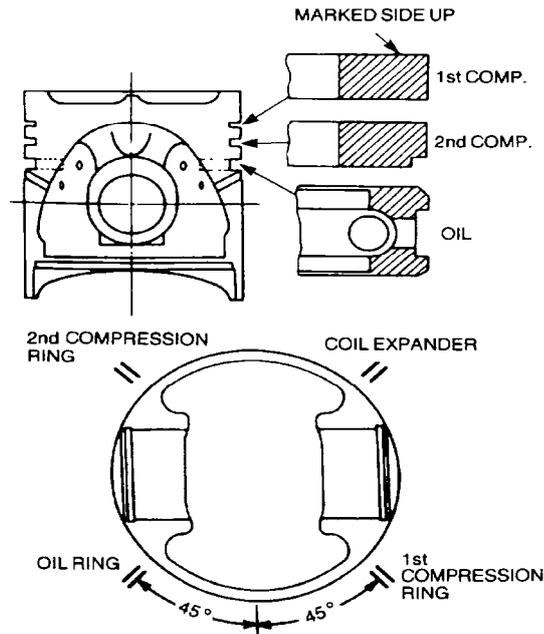

Figure 46 Piston Ring Installation
- x. When the piston rings are correctly sized, install the rings onto each piston with the aid of a piston ring installer. Ensure that the first and second compression rings are installed with the face marked 'NPR' or 'TOP' uppermost and the ring gaps positioned as shown in Figure 46.